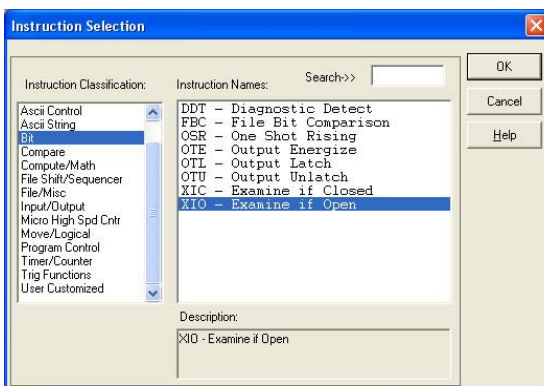

Figure 58: XIO Instruction Selection
- b) Select the “XIO” instruction from the “Bit” classification, then click OK. Refer to Figure 58.